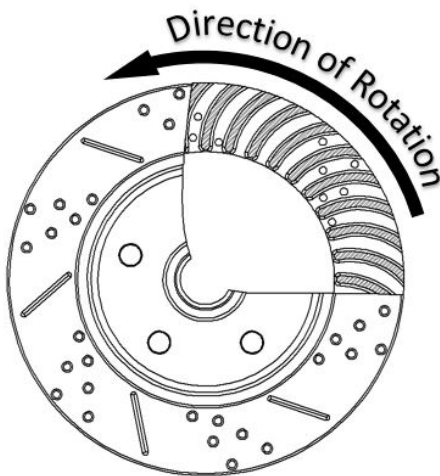

Figure 5– Proper Rotor Direction
- Slide the rotor onto the spindle. The inner wheel bearing and grease seal should be installed at this point. Use the graphic below in Figure 5 to determine the proper Driver or Passenger side assembly. **IMPORTANT:** The plain rotors and the slotted/drilled rotors are specific to the Driver or Passenger side due to the directional nature of the internal veining of the rotor. With the rotor fully pushed onto the spindle, install the outer wheel bearing followed by the keyed washer and the spindle nut. When tightening the spindle nut, tighten to 5-10 ft/lbs. Loosen the nut and tighten again using the same 5-10 ft/lbs. Do this a couple of times spinning the rotor to fully seat the wheel bearings onto the spindle. Loosen the nut a final time and re-tighten to move all play. Tighten approximately an additional 1/16th of a turn to give the appropriate pre-load. Install the spindle nut retainer and loosen or tighten the spindle nut to line up the cotter pin followed by the grease cap. See Figure 6 below shows the rotor installation.